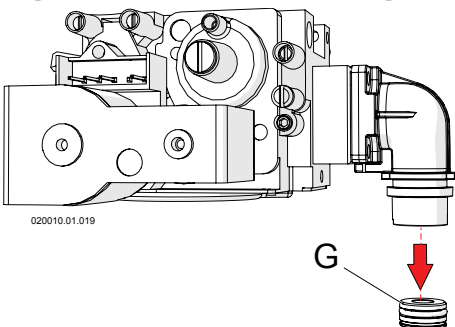

Figure 15-4 - Gas nozzle replacement
- 7 - Replace nozzle "G" in figure 15-4 with the one in the kit, checking table 15-8 to make sure the diameter corresponds;